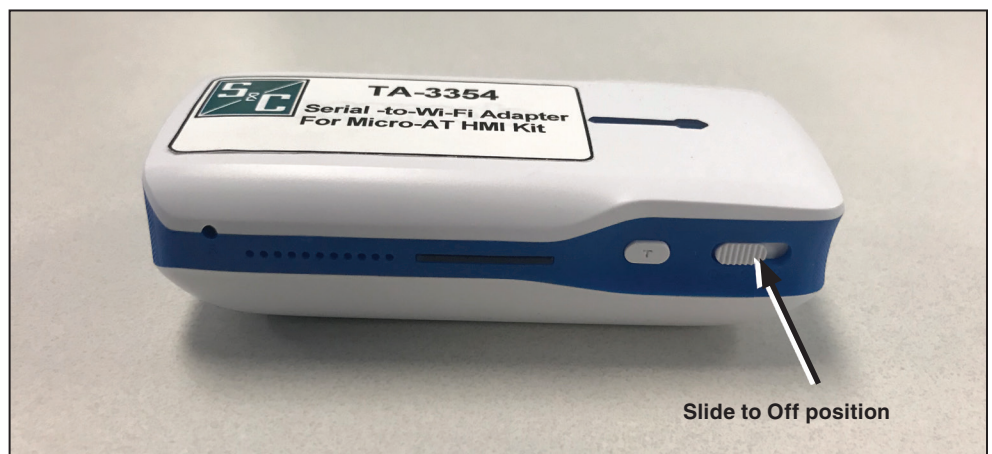

Figure 4. The adapter in the Off position.
STEP 1. Make sure the Wi-Fi adapter slider switch is in the **Off** position (**Power** button symbol to the far left). See Figure 4.